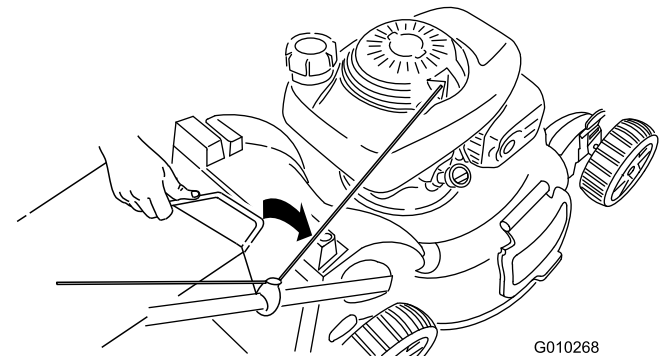

Figure 27
3. Insert the grass-bag handle into the grooves at the top of the machine (Figure 27).